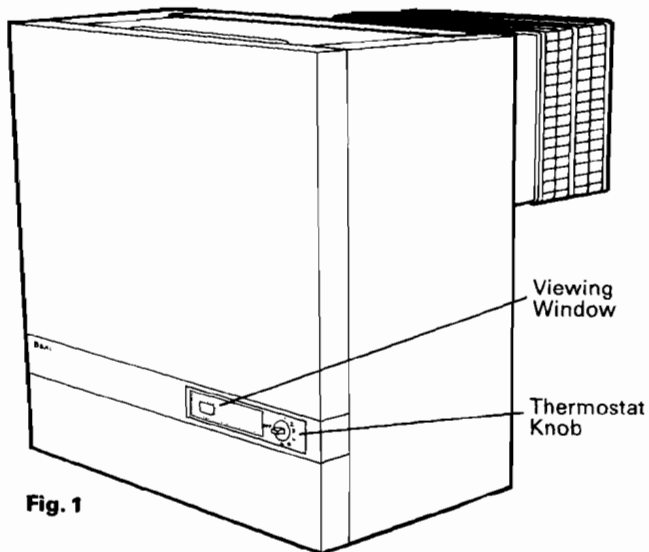

Fig. 1
3. Turn the boiler thermostat to the 'OFF' position as indicated by the marker (Fig. 1).
5. Press the igniter button repeatedly until you see the pilot flame alight through the viewing window. (Fig. 1).